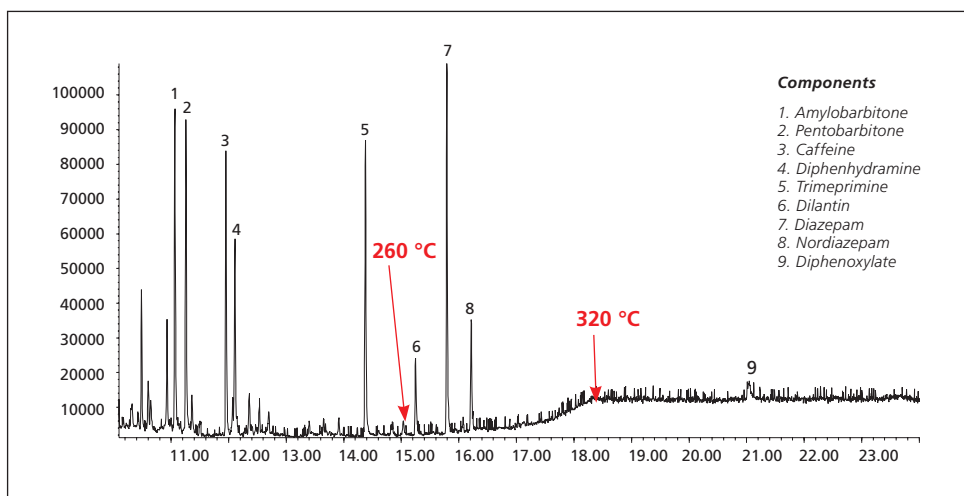
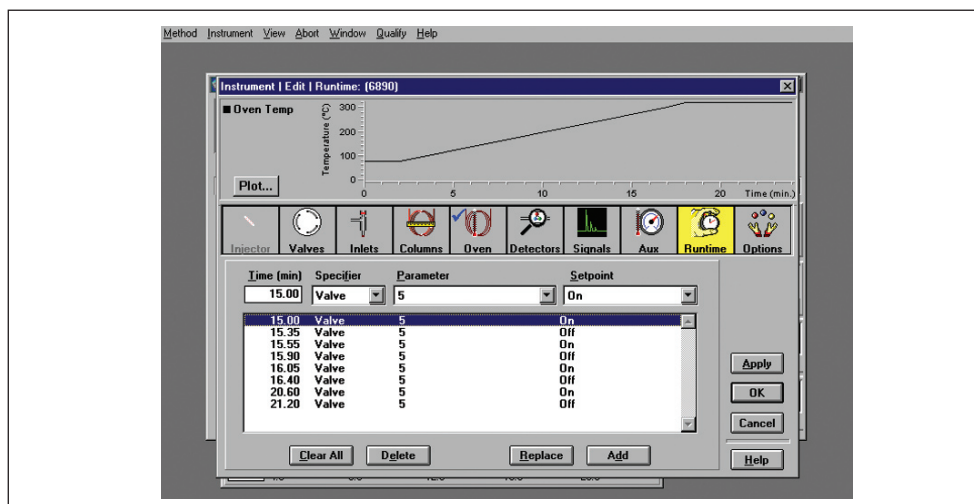

Figure 1. Chromatogram of the horse racing mixture at 1 ppm with no AirSharp™ applied.
Figure 3. Screen capture of the external events software (Agilent ChemStation software) that controls the on/off functioning of the AirSharp.
Using a horse racing standard drug mixture (Figure 1) on a BPX5 column the separation of the nine
The first step when developing a method with the AirSharp™, after identifying which compounds you wish to sharpen and enhance, is to determine when the front of the first peak you are interested in begins eluting from the column. In our example this is Dilantin (6) (Figure 1). The AirSharp™ is controlled through external events of the GC software (Figure 3), this can be set by the user to turn the Air Sharp
on and off. Figure 3 is an example of the Agilent software that controls the external events for instruments such as the AirSharp™. As can be seen from this picture, the computer software allows the user to designate the times when the AirSharp™ is turned on and off.
Figure 5. Result of AirSharp™ being turned off. Note the improved signal to noise ratio of Dilantin (6) from the previous chromatogram (Figure 1). This improvement along with improved peak shape is clearly shown by the overlaid peak of Dilantin (6) in blue. Note also that the AirSharp™ is turned off at approximately 15.30-15.35 minutes and the Dilantin peak appears now at about 15.40 minutes.
The next peak to be subjected to AirSharp™ is Diazepam (7). A similar procedure is used to determine when to turn the AirSharp™ on and off. The only difference being that you have to use the chromatogram that you have just run (Figure 5) to determine the retention time and not the original chromatogram (Figure 1). When you apply AirSharp™ to any chromatogram you change the